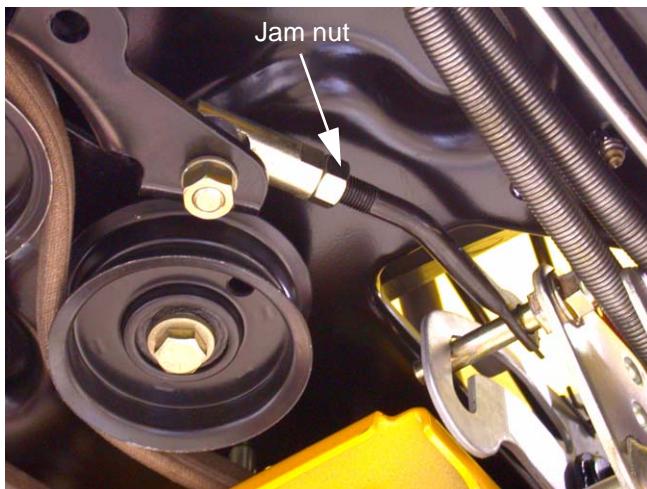

Figure 18.14
18.14. Loosen the jam nut that locks the speed control rod into the rod-end joint at the double idler bracket with a pair of $9/16$ " wrenches. See Figure 18.14.